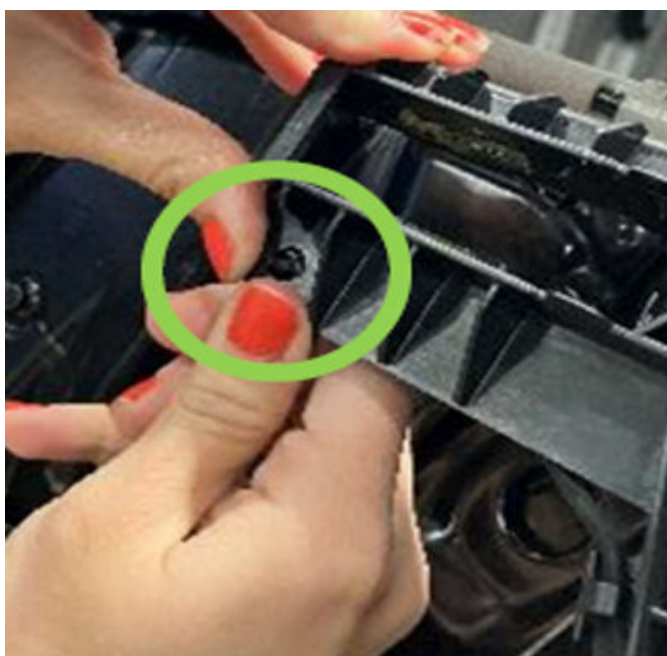

Fig. 44
48. Connect the chassis clip Fig. 44.